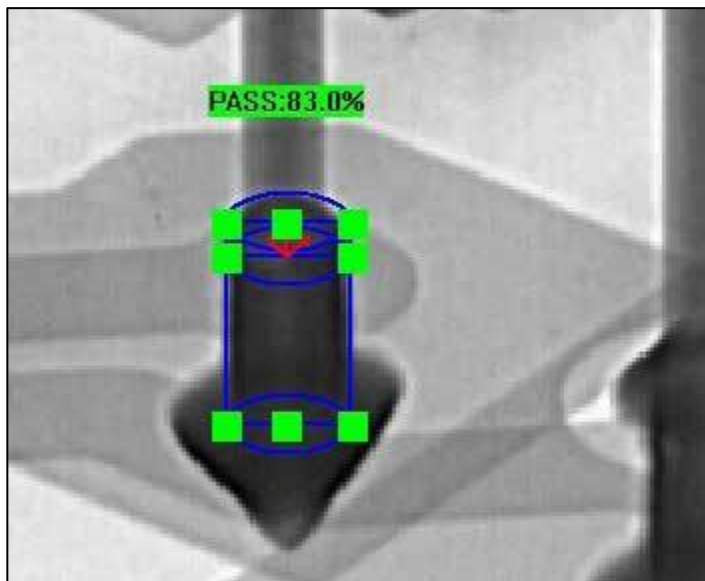

Figure 3 – Through-Component Barrel Fill (> 75% is acceptable).
- Through-hole (TH) Measurement is used to measure the barrel fill percent on TH parts. This calculation is used to verify the solder joints are acceptable per IPC-A-610 requirements for barrel fill (Figure 3).